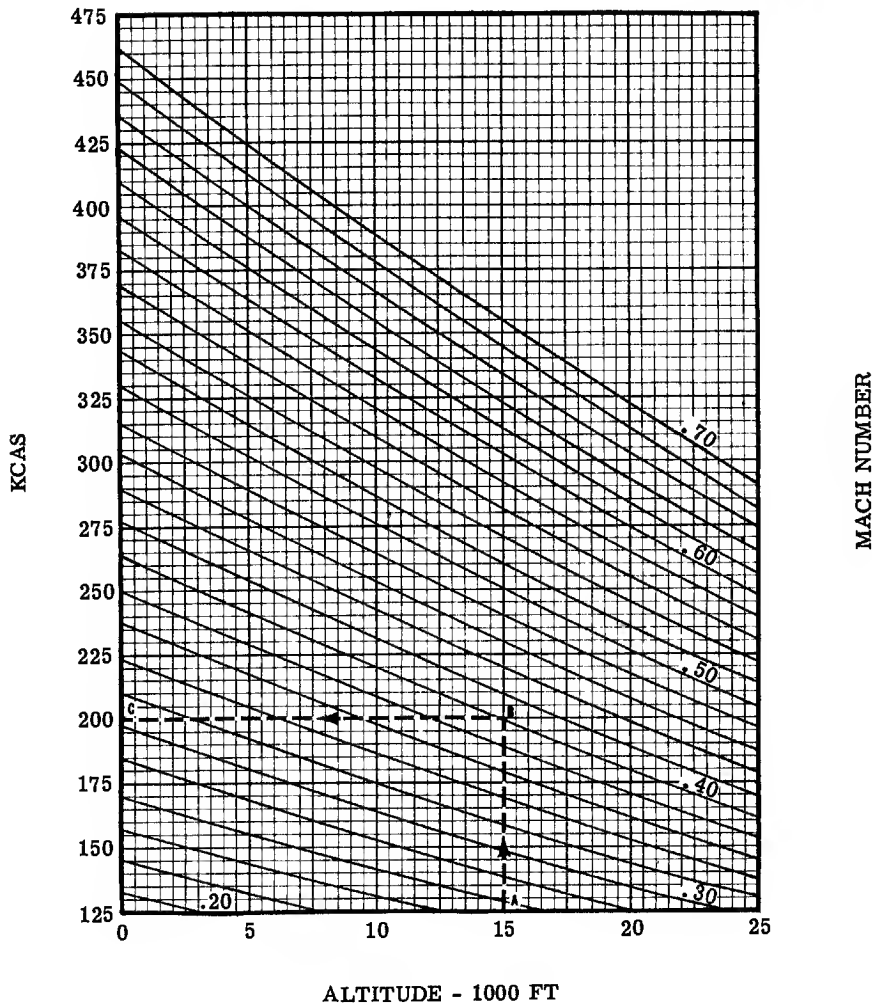

Figure A4-1
Drop vertically to Drag Index Line = 100 (H), then move to the left to Mach Number scale and Mach Number = .47 (I) (Read Cruise Speed = 212 knots CAS from figure A4-1) Move to the right from (H) to Distance = 180 Naut. Mi. (J)
(Read Cruise Speed = 235 knots CAS from figure A4-1)